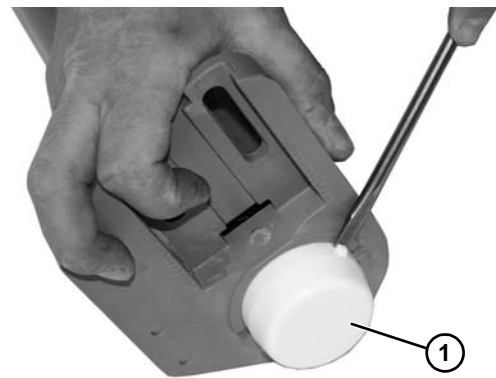

Figure 83
5. Remove the bearing cover (Figure 83, item 1). Repeat on opposite side.